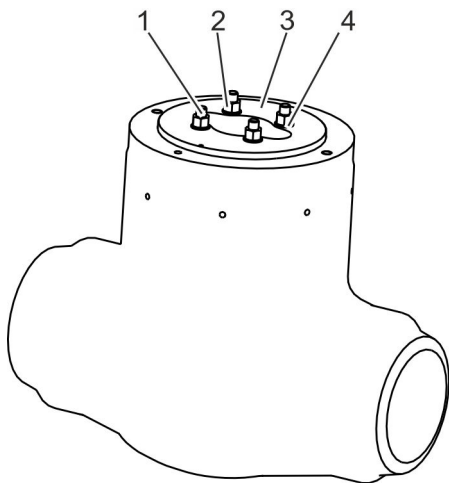

Fig. 7: Unscrewing the nuts from the clamping lid
1. ➔ Unscrew the nuts (Fig. 7/2) on the clamping lid (Fig. 7/3) and remove them together with the washers (Fig. 7/4).